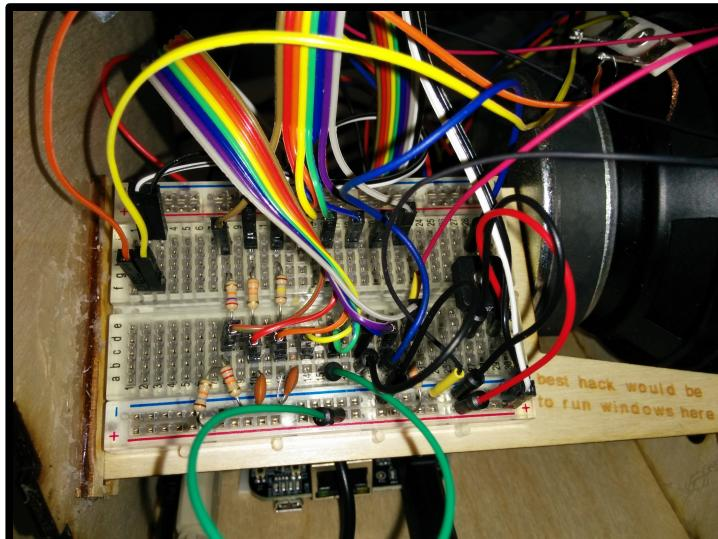

Fig. 1 - The Matrix, like in the movie
- you can experiment a lot by hacking the *Matrix* [all the components on the breadboard, Fig. 1]. It's not very likely that the instrument will break or "brick" by changing this circuitry;